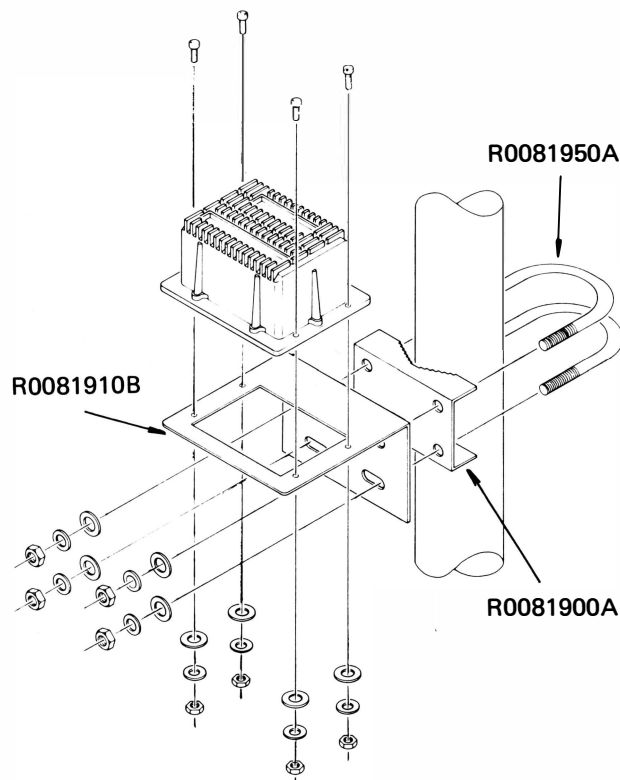

Figure 1
1. Bolt the FAS-1-4R to the angle bracket using the four screws, nuts and washers as shown in Figure 1.